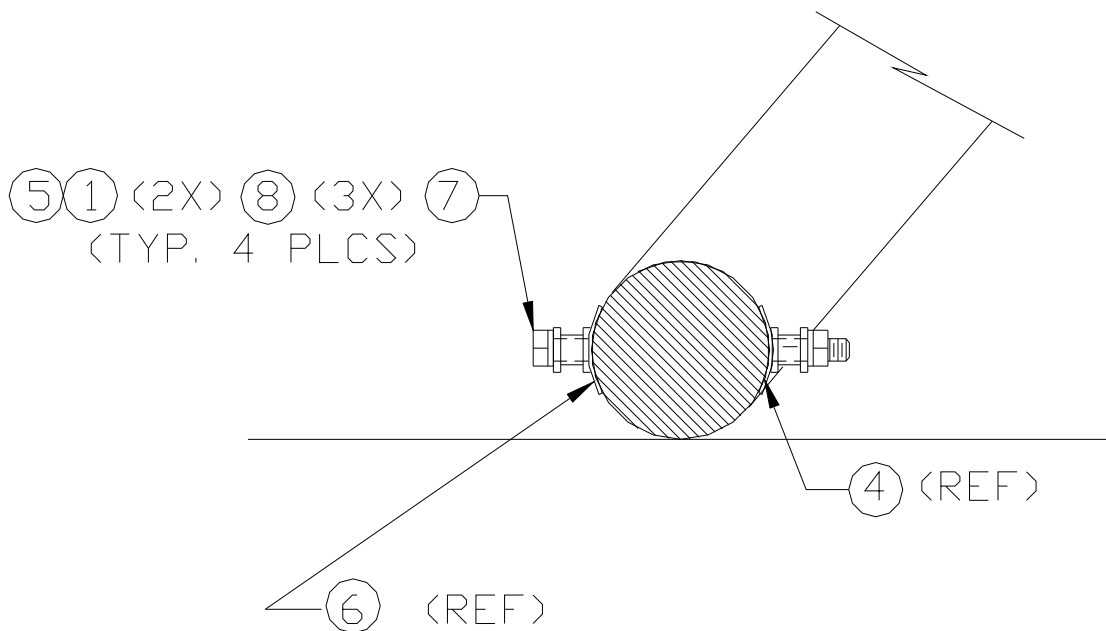

Figure 2: Skid Tube Bushings Installation
- 3.2 Refer to Figure 2 for Skid Tube components installation. If a doubler is replaced, it is permissible to use oversize rivets if needed. Remove and replace components of the thru-bolt stack-up if components are visibly damaged.
Parts List for Figure 2, Skid Tube Bushings Installation